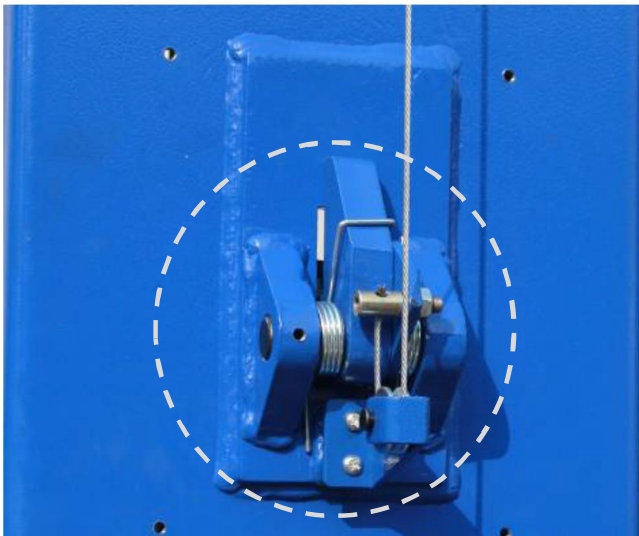

Fig. 11a
- A. Mount the safety latch device on each column as shown in (Fig. 11a & 11b)